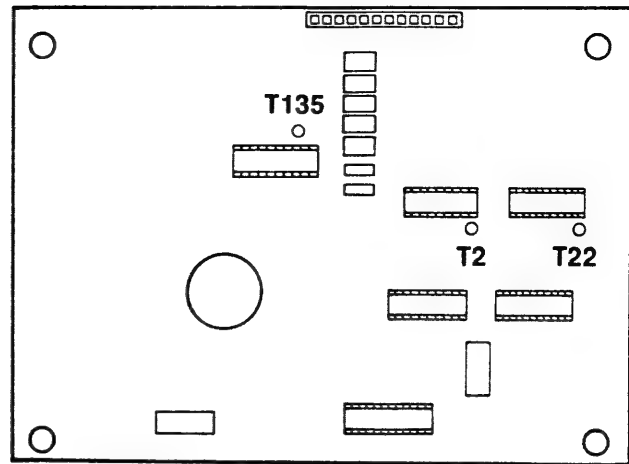

Figure 3-6.3A
7. Connect the Channel 1 Scope Probe to T2 and the Channel 1 Ground to T135 on the Control PWA (Figure 3-6.3A).
8. Connect the Channel 2 Scope Probe to T22 on the Control PWA (Figure 3-6.3A). Do not connect the Channel 2 ground.